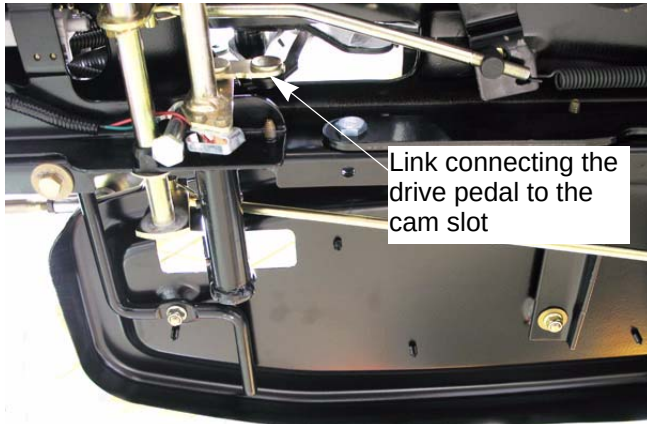

Figure 6.27
14. Place the link into the bottom of the lever with the cam slot. insert the hairpin clip to hold it in place. See Figure 6.27.